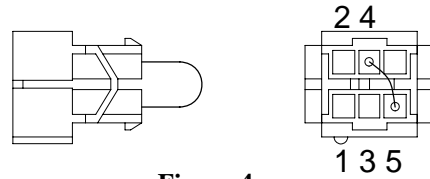

Figure 4
1. Check if you have a rocker switch installed and set to the ON position. If a switch assembly is not used, be sure the jumper (see Figure 4) is inserted in place of the rocker switch in the main harness.